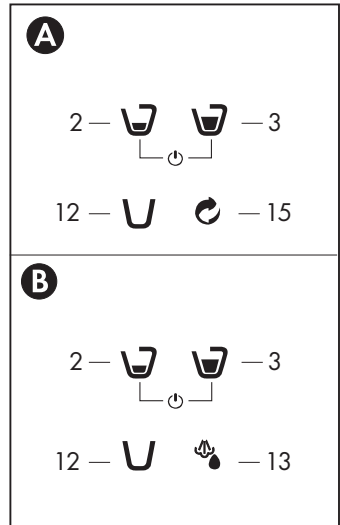

Fig. 5
- Pressing the main switch (10) at the rear switches the machine on.
- Press the desired symbol (2-3-12) to switch the desired machine section. The icons will flash intermittently until the correct temperature has been reached. When the symbols (2-3-12 -13-15) come on steady, the machine is ready for use. (Fig. 5)
The machine is equipped with a system that switches it OFF when not being used for a certain period of time. If the machine remains switched on without being used, it switches off automatically after about 30 minutes. To use the machine again, press a symbol (2-3) and wait for the machine to warm up: the delivery symbols (2-3-12-13-15) will flash intermittently until the correct temperature is reached; when the symbols (2-3-12-13-15) come on steady, the machine is ready for use. (Fig. 5)
- Check that there are no capsules inside the machine and that there is water in the tanks (8). Switch on the machine by pressing symbol (2-3) (Fig. 5)